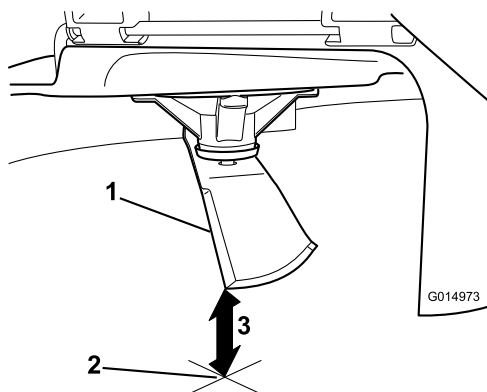

Figure 111
3. Measure from the tip of the blade to the flat surface (Figure 111).